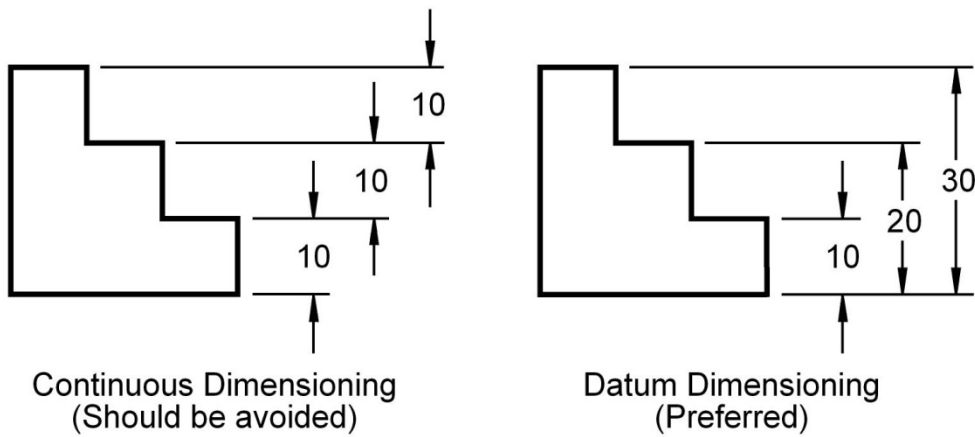

Figure 2-22: Continuous versus datum dimensioning.
- a) Datum dimensioning is preferred over continuous dimensioning (see Figure 2-22). Features should be located with respect to datum features.